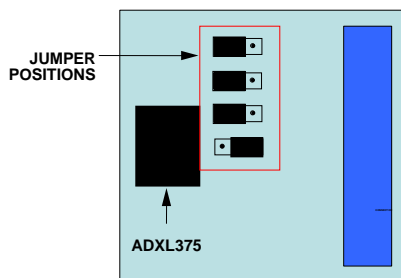

Figure 14. Correct Jumper Positions for the ADXL375 Satellite
1. Verify that the jumpers located in the center of the ADXL375 satellite are configured as shown in Figure 14.